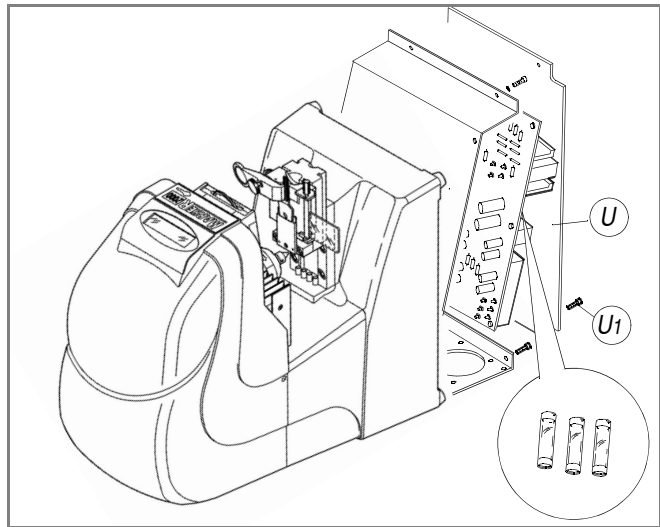

Fig. 40
- 2) turn the machine on its back and remove the four screws (U1) securing the bottom plate (U), which can then be taken off (fig. 40).
- 2) turn the machine onto its back, remove the four screws securing the bottom plate (U) and remove (fig. 40).
- 3) disconnect the Y sensor connector (9) (page 44).
- 4) stand the machine upright again, remove the cover (Q) (ch.9.4) and place next to the machine, without disconnecting the display connector.